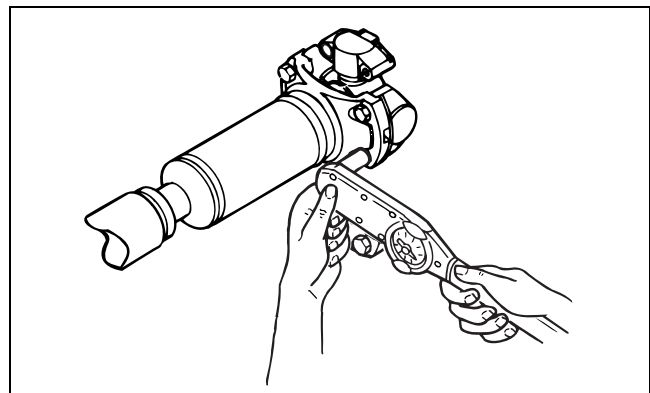

Figure 6.2
2. Install new capscrews and lock washers. Figure 6.2. Refer to Table C.
4. Use a torque wrench to alternately tighten the capscrews to correct specifications. Figure 6.2. Refer to Table C. **ⓘ**
5. Use a torque wrench to alternately tighten the capscrews to Meritor's driveline torque specifications. Refer to Table C and Figure 6.2.